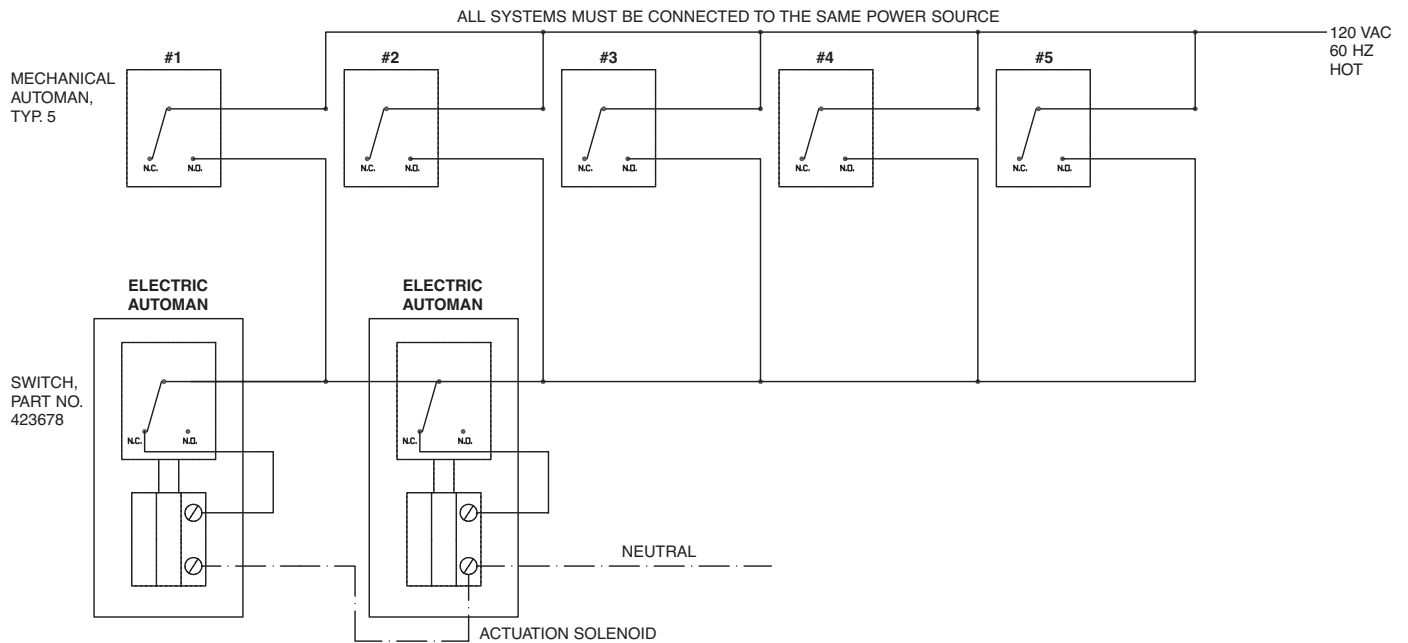

FIGURE 4
2. Simultaneous operation of any hood, duct, and appliance protection system and the system(s) protecting the entire common exhaust duct. See Figure 4.